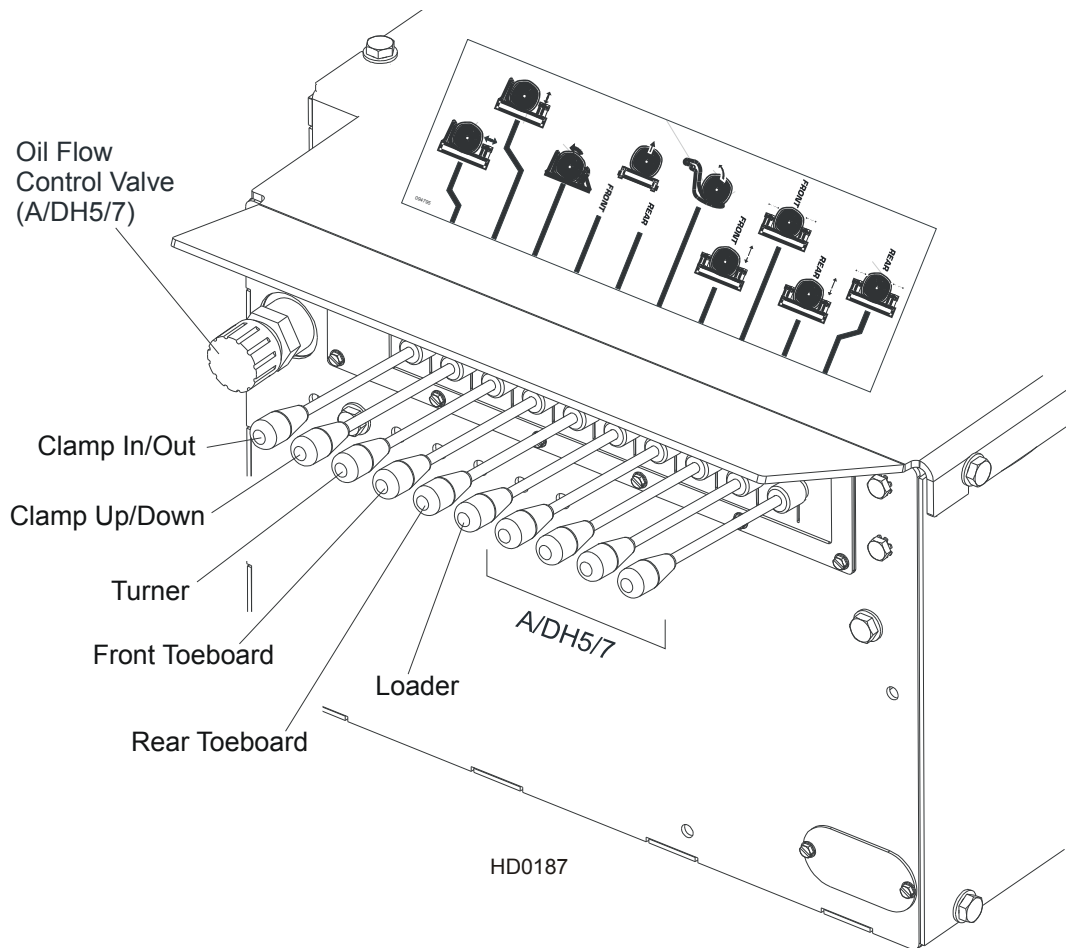

FIG. 2-11
**See Figure 2-11.** A/DH3 hydraulic units have six control levers to load, clamp, turn and level logs. A/DH5 and A/DH7 hydraulic units have four additional levers for controlling the Pull-Down clamps. In sawmills equipped with A/DH5 hydraulic system, individual Pull-Down clamps are controlled with separate levers. In sawmills with A/DH7 hydraulic system, in/out movement of individual clamps is controlled with the same lever and up/down movement of individual clamps is controlled with separate levers. A/DH5 and A/DH7 hydraulic control boxes are equipped with an oil flow control valve.